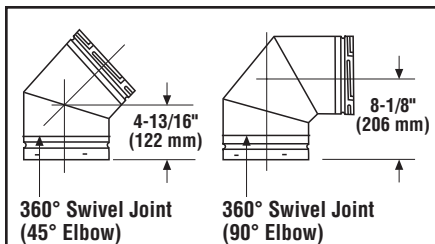

Figure 14-1: Elbows
- Each elbow features a 360° swivel joint (**Figure 14-1**), which allows it to be rotated around the center axis of the dimpled end, to align with the direction of the next vent run section.